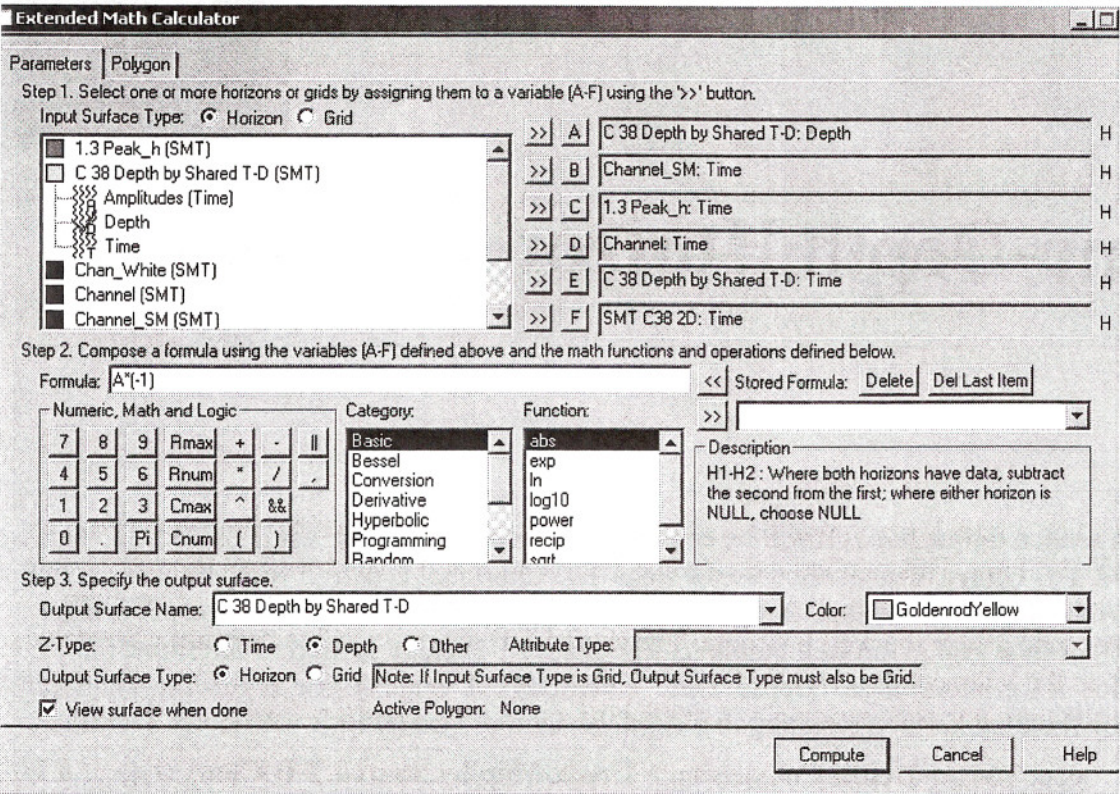

Figure 5.2 — Extended Math Calculator dialog box with Parameters tab active
- 5. Select **Tools > Calculators > Extended Math Calculator** (Figure 5.2).